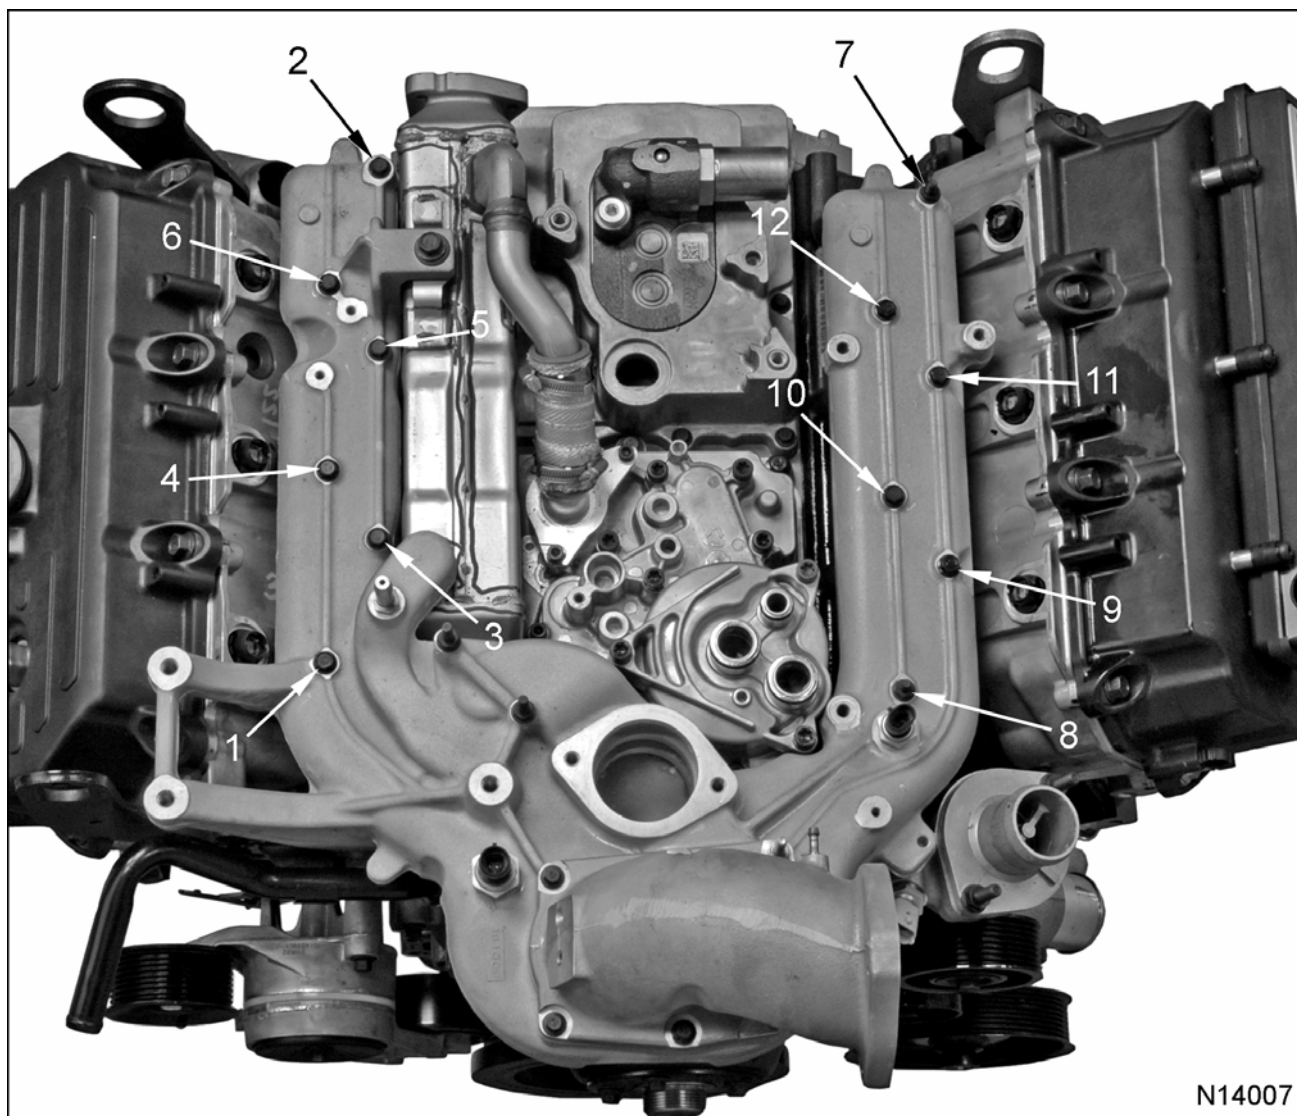

Figure 171 Intake manifold bolt torque sequence
3. Tighten bolts to special torque (page 142) using intake manifold torque sequence (Figure 171) .